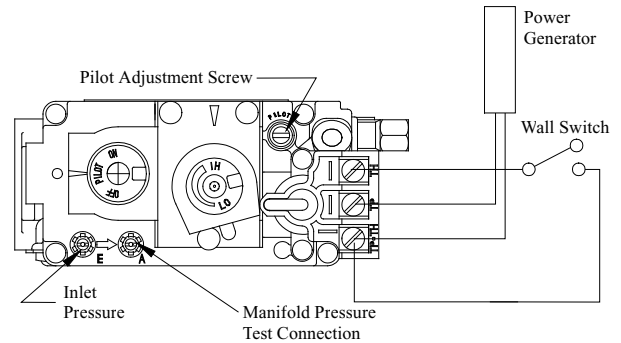

Figure 27. Sit Nova 820 gas valve.
1. Locate Pilot Adjustment Screw. (See figure 27.)
Pilot won't ignite	Disconnect remote wires and try to light pilot. If pilot now works, remote connections are faulty. Check wiring diagram figure 27.
Main burner will not light	1. Check wiring (see figure 27). 2. Check wall switch for proper connection.